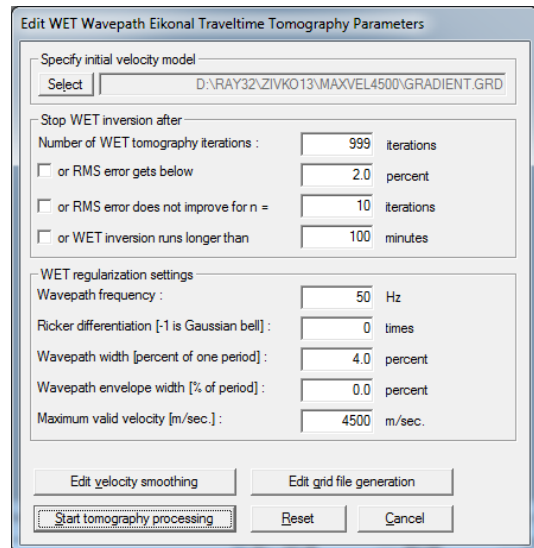

Fig. 13 : WET settings for 1D-gradient starting model
- select *WET Tomo|Interactive WET tomography...* and edit as Fig. 13, click button *Start tomography processing...*
WET inversion as shown in Fig. 13, 15 & 16 took 23 minutes (999 WET iterations, 49 shots into 24 receivers) on MacBook Air with 1.8 GHz Intel Core i7 processor, using two hyper-threaded CPU cores.